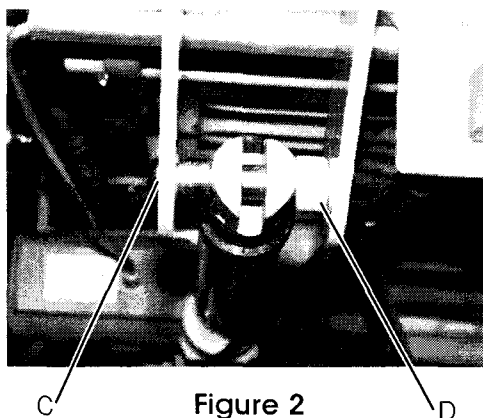

Figure 2
11. Insert the small standard screwdriver in the release control cam, push the cable locking clip (B) in order to release the cable (see figure 1). Use the 5 mm Allen wrench to unscrew the two screws (C) which hold the motor end shaft. You may wish to use the 13 mm open end wrench to stop the shaft from rotating (see figure 2).